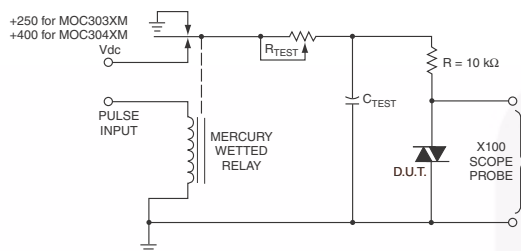

Figure 11. Static dv/dt Test Circuit
| dv/dt | Critical Rate of Rise of Off-State Voltage | $I_F = 0$ (Figure 11) ⁽²⁾ | All | 1000 | 2000 | | V/ μs |
- This is static dv/dt. See Figure 11 for test circuit. Commutating dv/dt is a function of the load-driving thyristor(s) only.